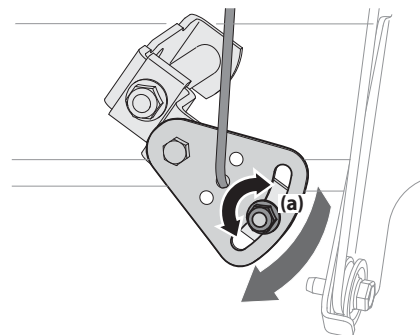

Figure 2-59
2. Loosen hex nut (a) on shift cable index bracket. See Figure 2-59.